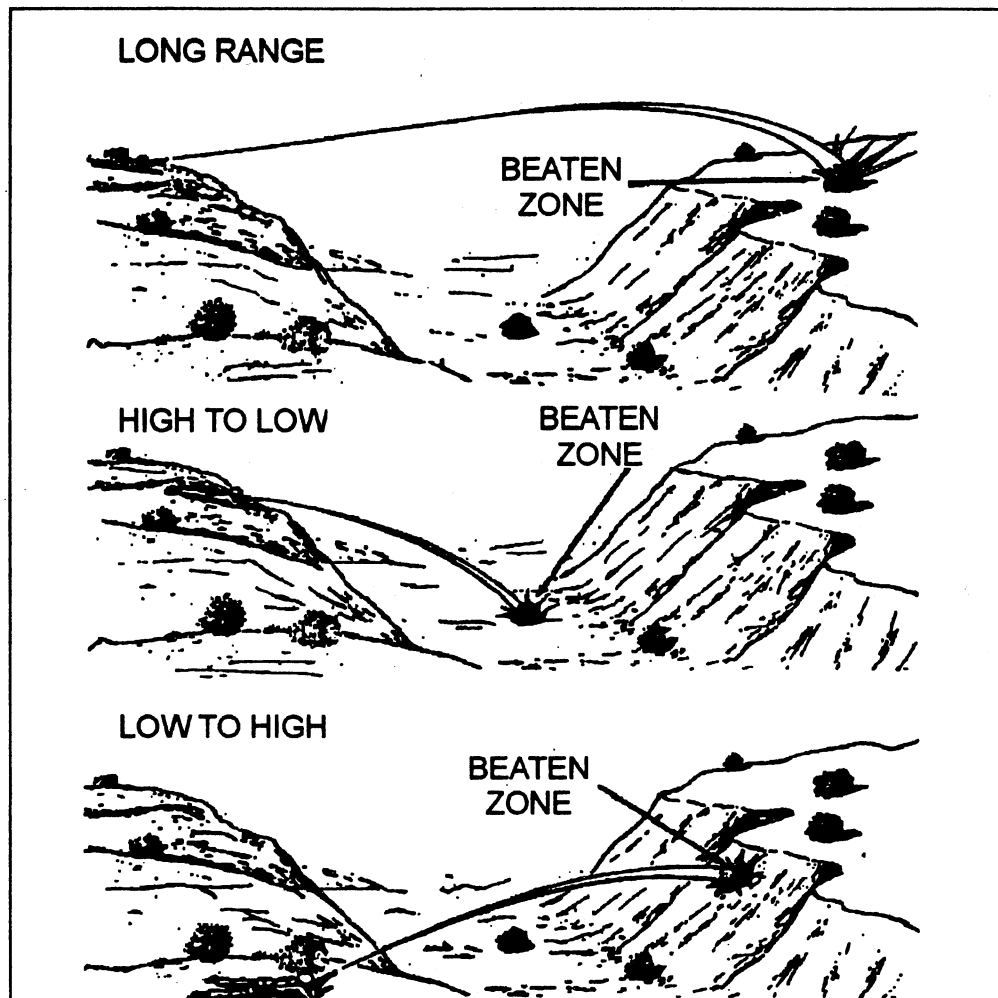

Fig 3-5. Plunging fire.
b. **Plunging fire.** The second class of fire is plunging fire. Plunging fire is obtained when, relative to the slope of the ground, the rounds fall at an angle that practically confines the danger zone (that area where a man cannot safely stand) to the beaten zone and, further, materially shortens the length of the beaten zone. Plunging fire can be obtained when firing from high ground to low ground, when firing from low ground to high ground, and when firing at long ranges. Figure 3-5 demonstrates all three of these situations. Plunging fire can be very effective because hostile personnel cannot avoid your fire by merely getting into small depressions and holes. To avoid plunging fire, hostile personnel must acquire overhead cover--an option not usually available for attacking units on contested ground.